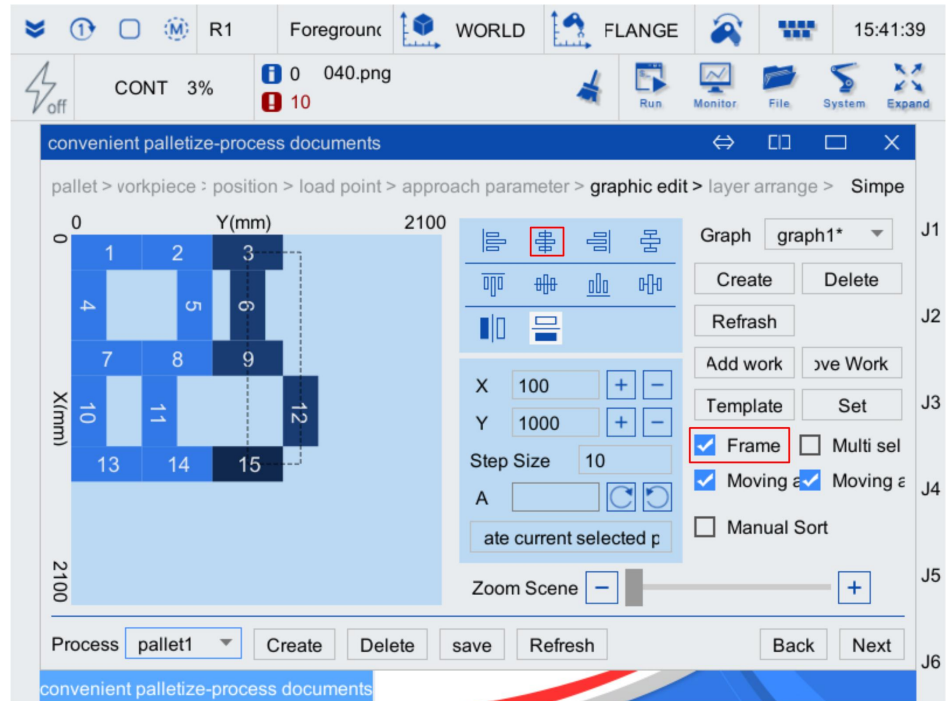

Figure 3-22 Diagram of frame selection effect
Step5. Click the "box selection" (or "multiple selection") check box (as shown in Figure 3-22), and box select (or multiple selection) workpieces 3, 6, 9, 12 and 15 at the same time, and click  to align right.